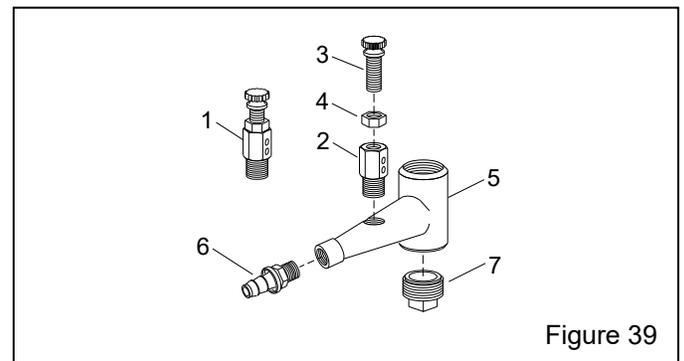

Figure 39
**9.8 Metering Valve Assembly, BNP – Figure 39**